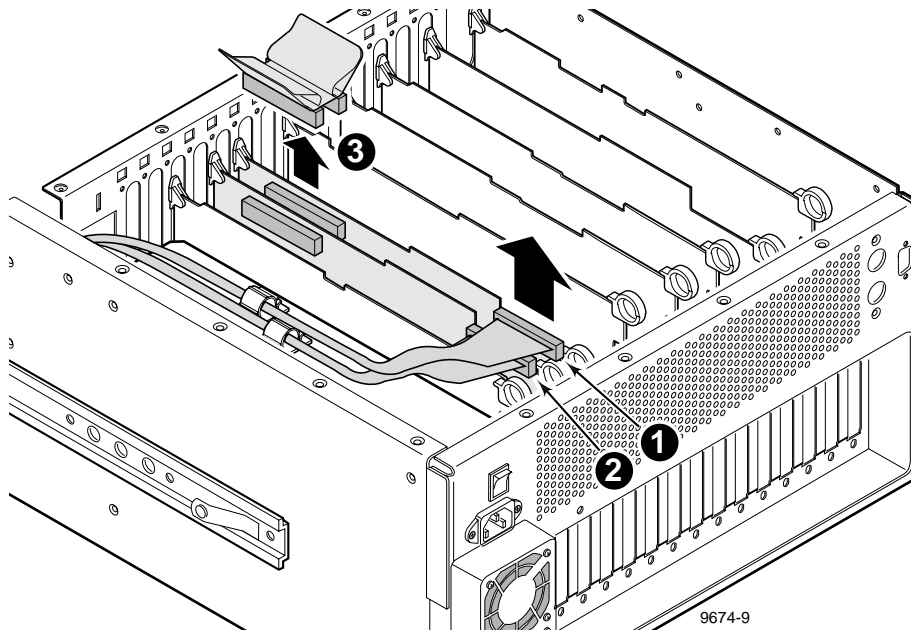

Figure 3. Internal cable removal
2. Remove the SCSI A Cable connector (❶ in Figure 3) from the Master Disk Recorder board.
3. If you have a Slave Disk Recorder board installed, remove both the SCSI B cable (❷ in Figure 3) and the ribbon cable (❸ in Figure 3).